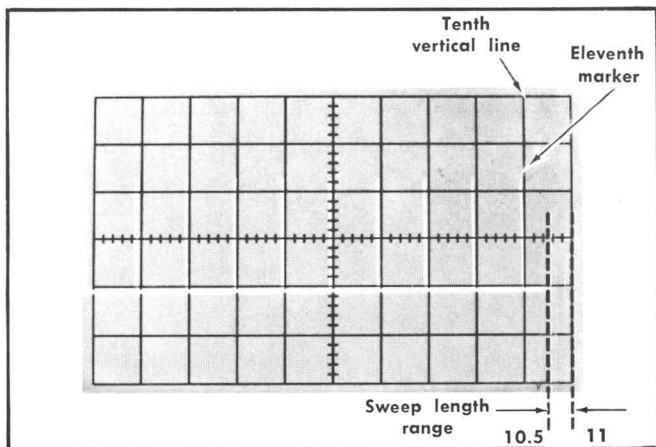

Fig. 5-17. Adjusting sweep length and centering. Typical waveform.
d. ADJUST—R702, X1 Gain (see Fig. 5-16A for location) for one marker per division over the center eight divisions. The first and ninth markers must coincide exactly with their respective graticule lines (reposition horizontally as needed). See Fig. 5-17.